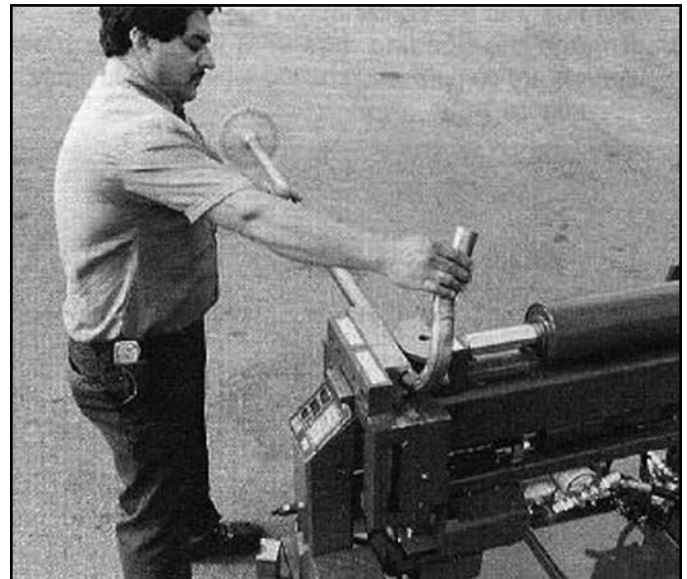

Figure 3-A
19. For bend number three, REVERSE the tubing and install the HALF SHOE now. (See figure 3-A)